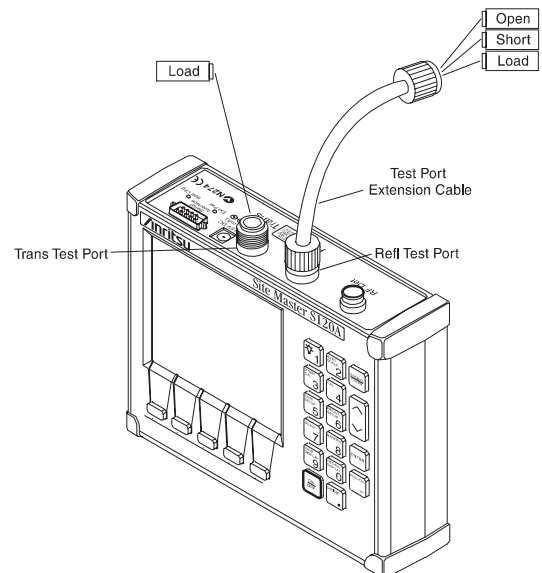

Figure 3. OSL-THRU-ISOL Calibration Setup
16. Follow the instructions on the display to perform a OSL-THRU-ISOL calibration using a 22NF50 Open/Short, 28NF50-2 or SM/PLNF Terminations, and 15NN50-1.5A Test Port Extension Cable (refer to Figure 3).